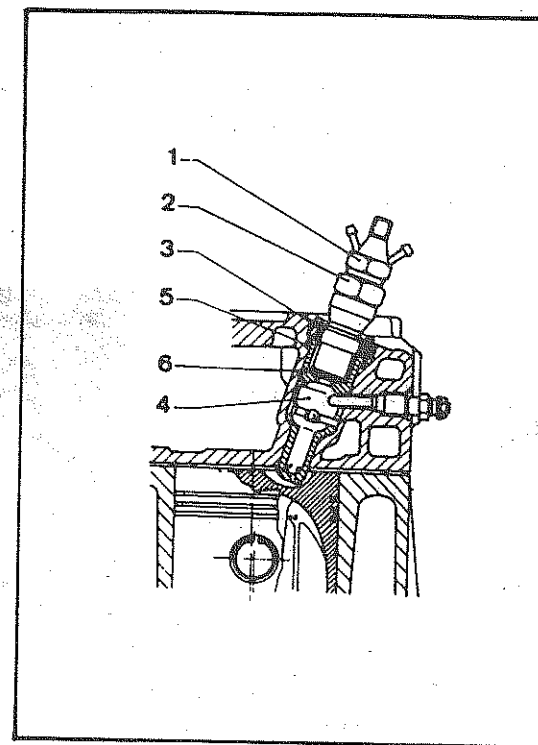

Fig. 16
- b) Install new no. 5 O-rings (Fig. 16).